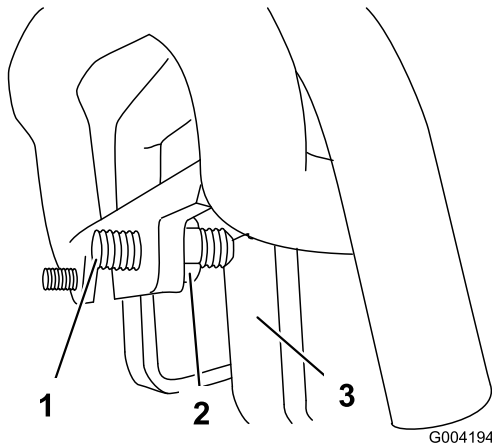

Figure 73
3. If the traction unit veers to the **left**, loosen the **right** jam nut and adjust the tracking set screw on the front of the traction control (Figure 73).
4. If the traction unit veers to the **right**, loosen the **left** jam nut and adjust the tracking set screw on the front of the traction control (Figure 73).